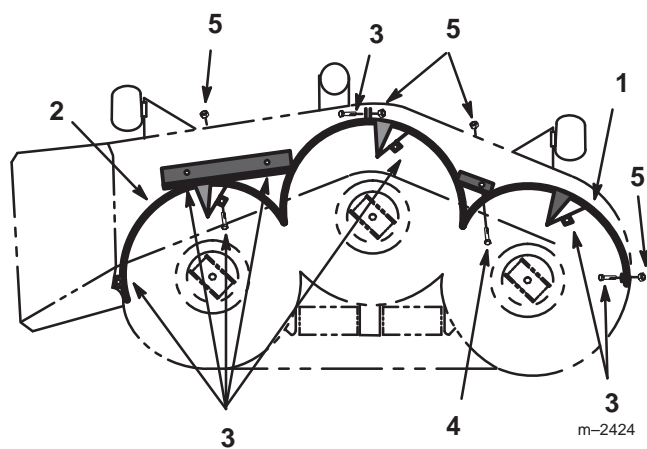

Figure 2
1. Place the left and right sides of the baffle together with a center pin inserted into flange. Secure the flanges with 1 bolt (5/16 x 5/8 inch) and 1 locknut (5/16 inch) (Fig. 2).
2. Place the baffle assembly inside the cutting chamber (Fig. 2). Secure it with 7 bolts (5/16 x 5/8 inch), 1 bolt (5/16 x 1 inch) and 8 lock nuts (5/16 inch).